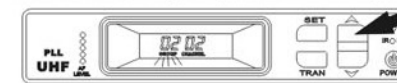

FIGURE 16
b. Press the ▲ or ▼ buttons. Choose the group's data which you need(Figure 16).